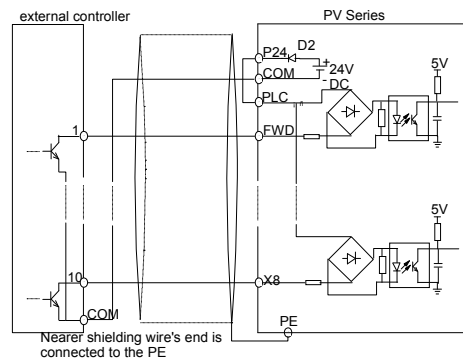

Fig. 3-23 Connection method 2 (a)
① Drive's internal +24V power supply is used and the external controller uses NPN transistors whose common emitters are connected, as shown in Fig. 3-23.